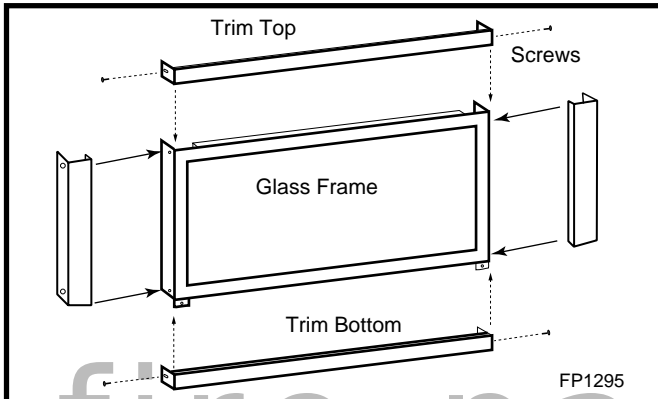

Fig. 43 Install support window trim channel and top and bottom brass trim.
2. Install support window trim channel, top and bottom brass trim by using the shortest black screw. (Fig. 43 & 44)